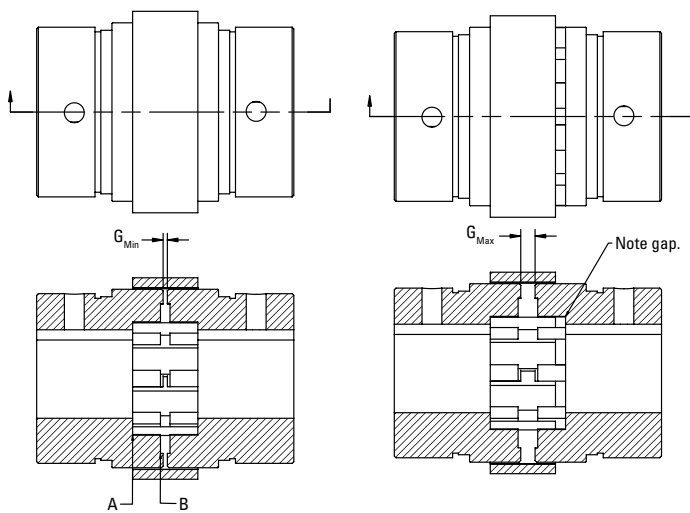

Fig. 6. Proper shaft-to-hub engagement
4. Install the first hub. It should be mounted so the end of the shaft is flush with surface "A" as shown in fig. 6. It is acceptable for the shaft to extend past "A" as long as it is not past the teeth shown as "B."